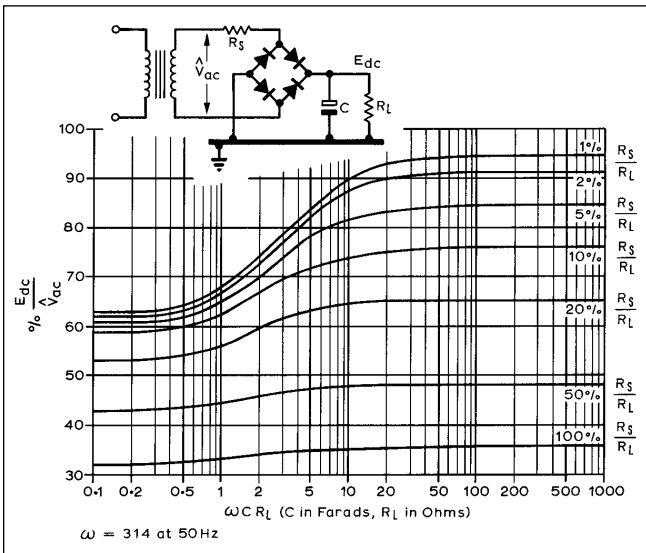

Fig 24.6: Output DC voltage as a percentage of peak AC input voltage for a bridge rectifier with capacitor input filter
Fig 24.5 shows voltage and current waveforms of the capacitor as it charges up during part of the cycle and discharges during the rest. The ratio of output voltage to peak input voltage depends on the size of the capacitor, the load and effective resistance in series with the rectifier. Fig 24.6 shows the relationship graphically being 2π times the input frequency.
- 5 Assume $\omega CR_L = 100$ (this is an arbitrary choice based on the need for low ripple voltage - see later), so $E_{DC}/E_{\text{peak}} = 0.95$ (from Fig 24.6 which also shows that there is not much to be gained by increasing ωCR_L further). Therefore the secondary voltage = $13.8/0.95 = 14.5$. However this does not include the voltage drop in each diode of about 1.5V (a total of 3V) so the secondary voltage required is 17.5V .